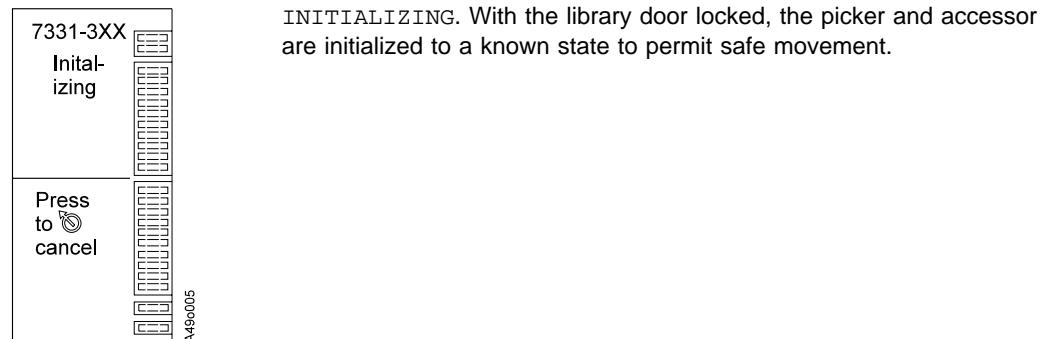

Figure 22. Initializing Display
Step 12. After POST is complete, wait for the library initialization to complete. During the initialization operation The control panel display shows the message in Figure 22: